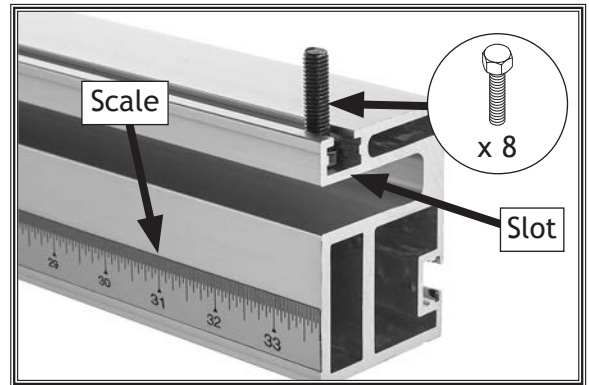

Figure 22. Hex bolt positioned in front fence rail slot.
12. Orient fence rail so scale faces you. Slide (8) M8-1.25 x 30 hex bolts into open slot (see **Figure 22**).